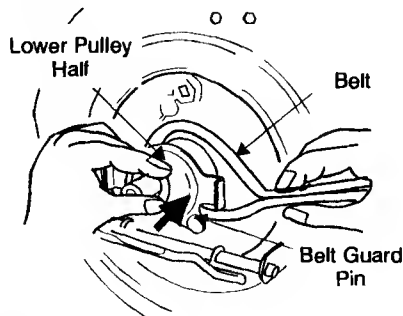

Figure 26
20. Pinch belt together so that it is not in the pulley groove, and the lower pulley can be pushed towards the engine. See figure 26.